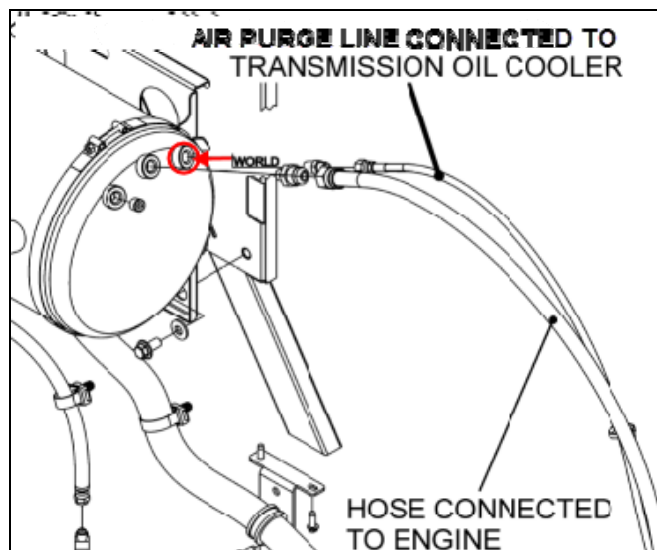

FIGURE 4 : SURGE TANK
3. On system drained, disconnect the air purge line at the surge tank (see FIGURE 4). Put Loctite 567 thread sealant on ¼ hex socket plug (#501800) and then screw the plug to the surge tank.